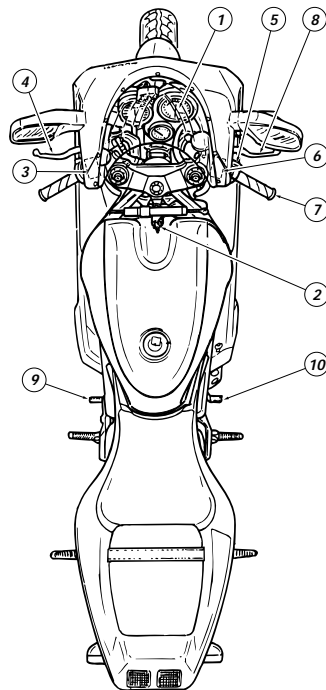

fig. 2
*Position of motorcycle controls (fig. 2)*